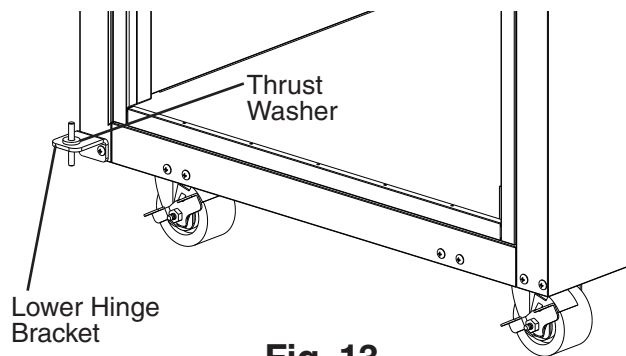

Fig. 13
- 9) Make sure the thrust washer is in place, then mount the door onto the lower hinge bracket (nylon bearing over lower hinge bracket pin). See Fig. 13.